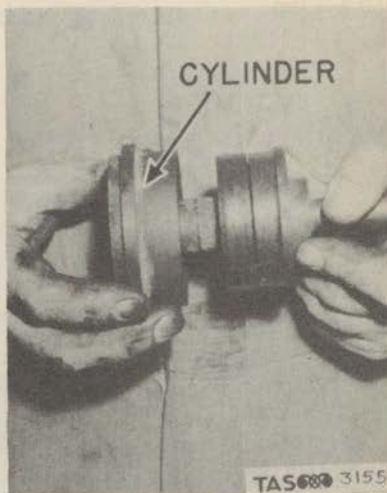

Figure 110. Removing Cylinder (Sleeve).
(8) Remove the cylinder (sleeve). (Fig. 110)